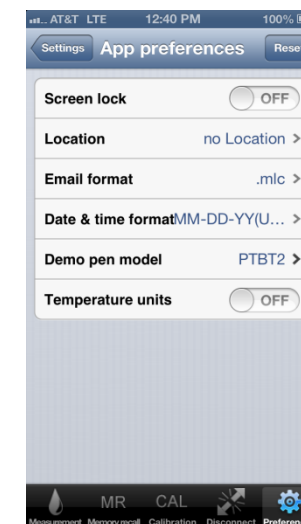

Figure 9
- **APPLICATION PREFERENCES** (See Figure 9): This section contains:
3. Slide the Screen Lock switch (see Figure 9) to: